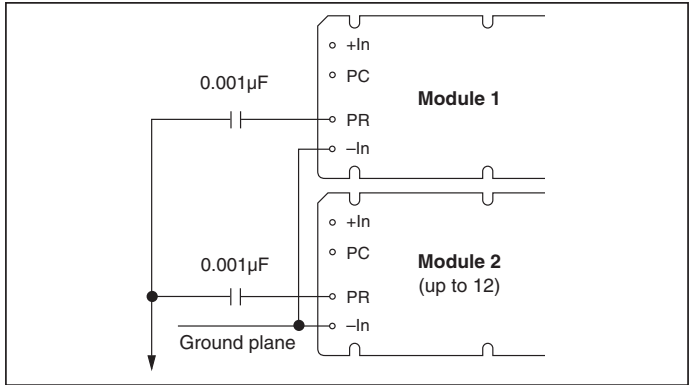

Figure 10 — AC coupled single-wire interface.
*AC coupled single-wire interface.* All PR pins are connected to a single communication bus through 0.001  $\mu$ F (500 V) capacitors. This interface supports current sharing and is fault tolerant except for the communication bus. See Figure 10.